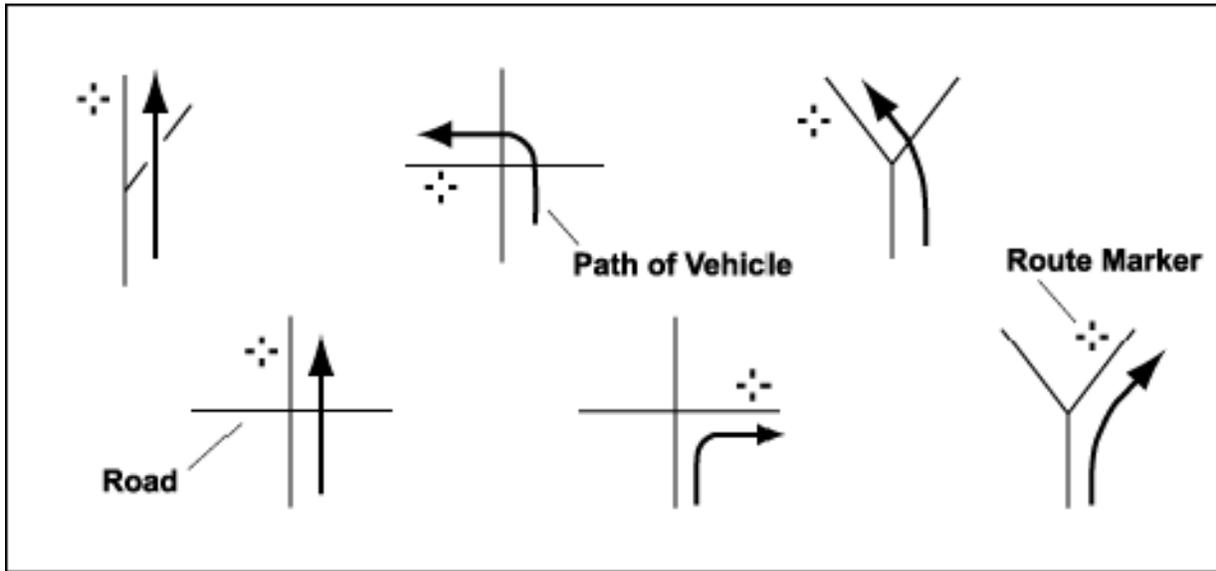
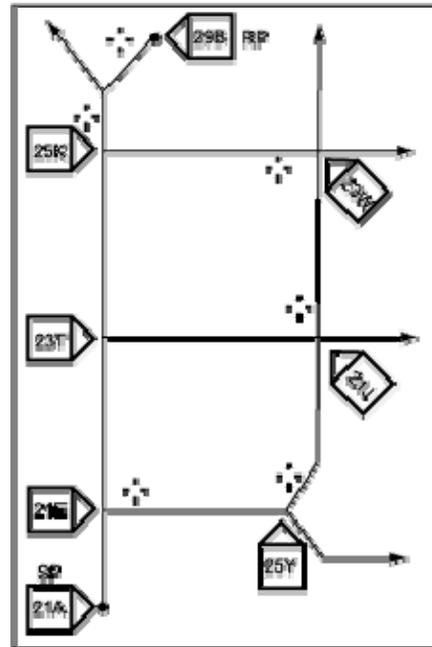

Figure 3-2. Marking Intersections.
Figure 3-4. Sample Marked Route.
1. **All route markers are placed on the left side of the road such that drivers always keep markers to their left.** A route is marked at critical points: intersections, ford sites, and turns. A route is marked in one direction only. See Figure 3-2. Figure 3-4 is a sample route.